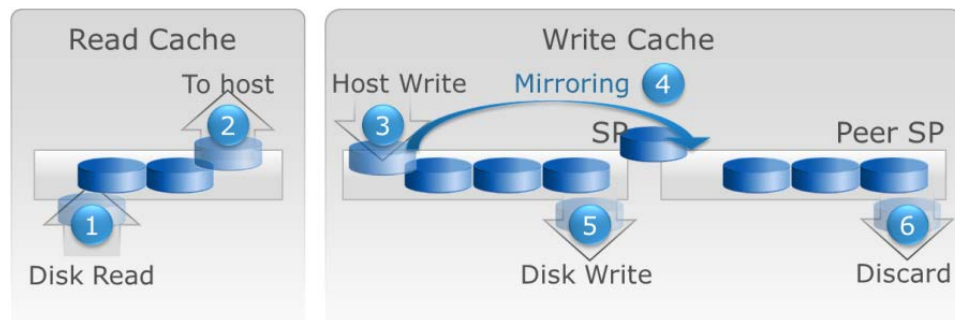

Figure 6. FLARE cache
As illustrated in Figure 6, the primary function of the read cache is prefetching. *Read Misses* result in data being loaded into the read cache (1). Host read requests can be satisfied from either read or write cache, if needed data is available when the request comes in; or it can be satisfied from read cache (2) if the data needs to be loaded from disk.